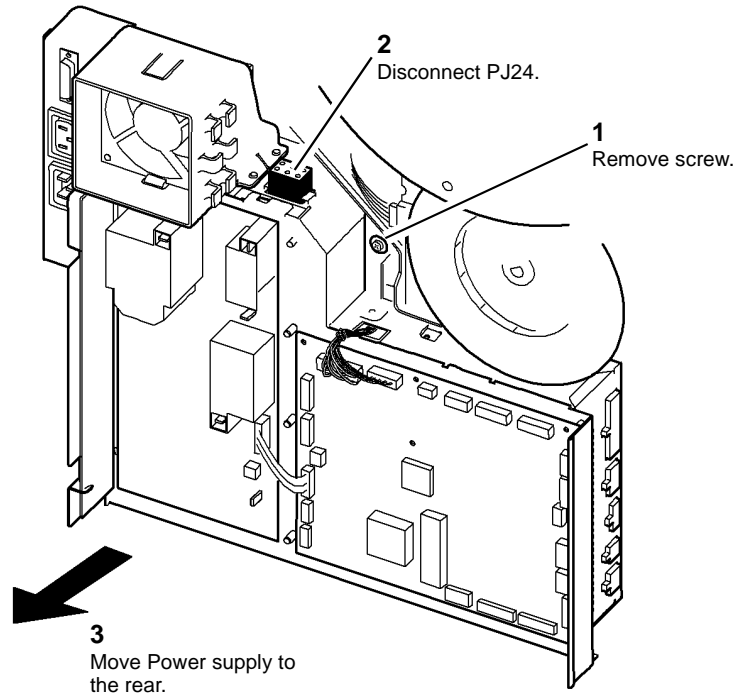

Figure 2 Power supply
11. Move the power and control assembly to the rear, **Figure 2**.